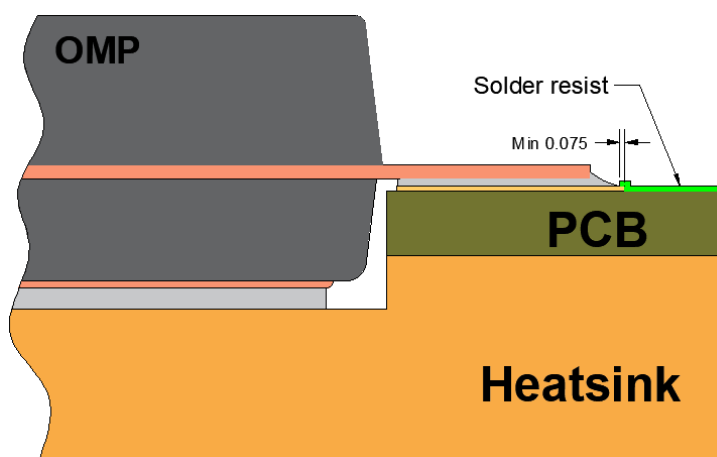

Figure 20. SMD cross section view OMP straight leads package
- Solder mask defined (SMD) the solder mask overlaps the underlying metal pad, which is slightly larger than the solder mask opening (Figure 20).